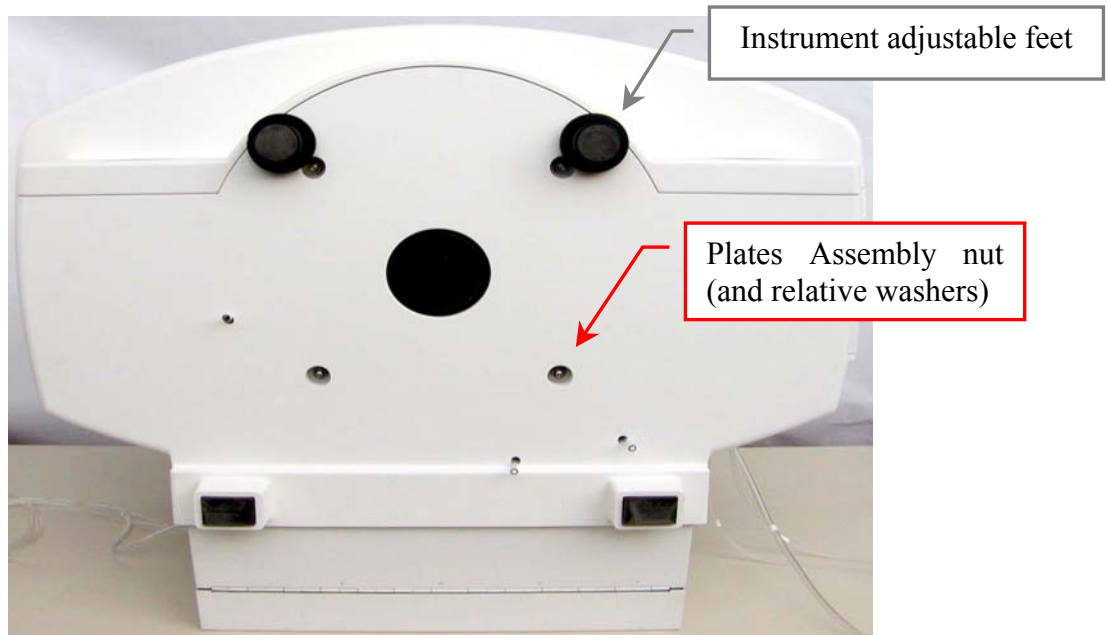

Fig. 56 - Instrument (inferior surface view)
28. Lay down delicately the instrument on its posterior side (Fig. 56) and open the instrument main cover
29. Loosen the two instrument adjustable feet (Fig. 56).
30. Holding berthed the Plates Assembly to the instrument, unscrew the four Plates Assembly nuts and remove the relative washers (Fig. 56).